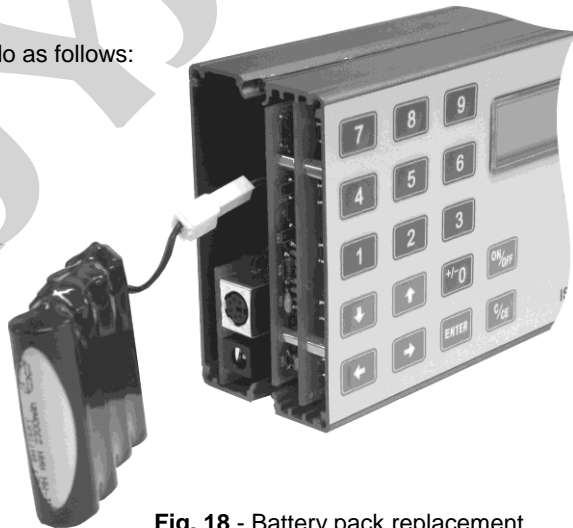

Fig. 18 - Battery pack replacement
- 3) Pull the battery pack outwards (see figure 18);